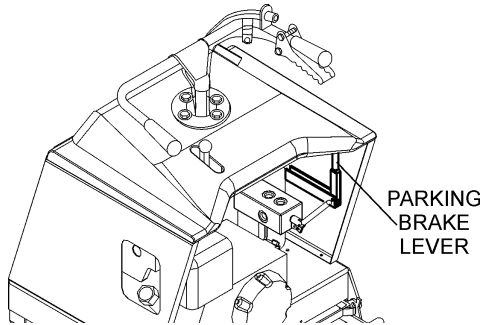

Figure 17. Parking Brake Lever
1. Engage the parking brake lever (Figure 17) and attempt to rock the buggy back and forth. If the wheels turn during the rocking motion, adjust the brakes as outlined in the maintenance section of this manual.
2. Engage the parking brake (Figure 17).